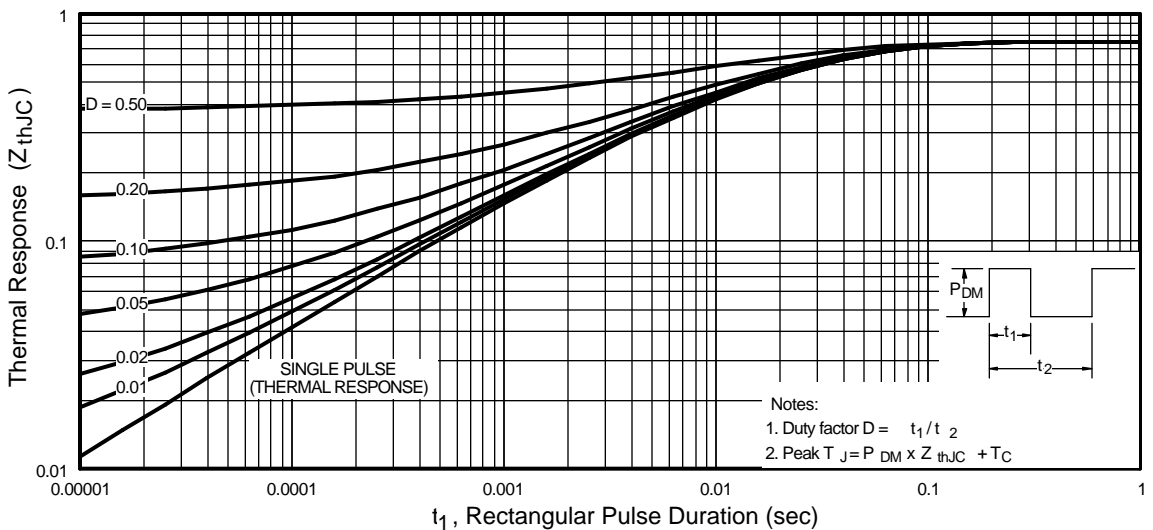

Fig 11. Maximum Effective Transient Thermal Impedance, Junction-to-Case
- ① Repetitive rating; pulse width limited by max. junction temperature. (See fig. 11)
- ② Starting T_J = 25°C, L = 0.66mH